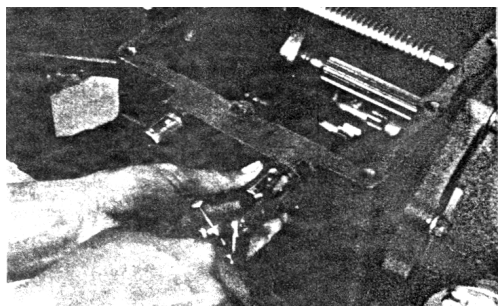

Fig. 3-18
(6) Remove the clip ring placed at the outer end of the rotating rod with a pair of pliers (See Fig. 3-18).